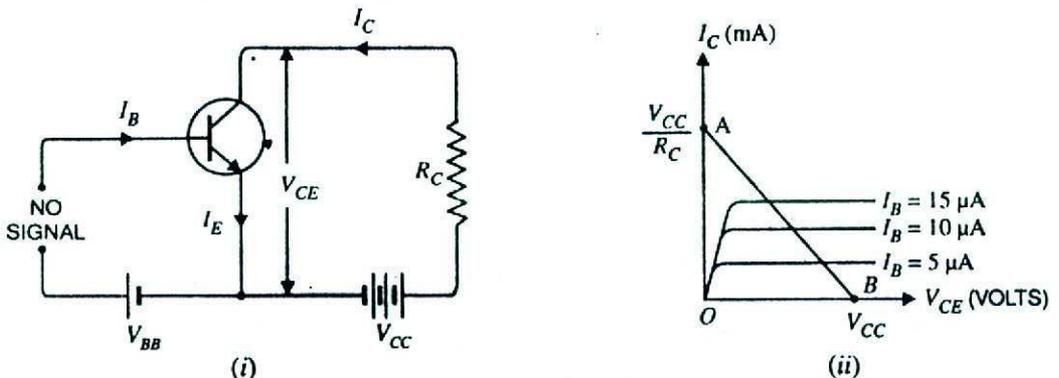

Fig. 10.28
**d.c. load line.** Consider a common emitter *npn* transistor circuit shown in Fig. 10.28 (i) where no signal is applied. Therefore, d.c. conditions prevail in the circuit. The output characteristics of this circuit are shown in Fig 10.28 (ii).
This gives the first point *B* ( $OB = V_{CC}$ ) on the collector-emitter voltage axis as shown in Fig. 10.28 (ii).
This gives the second point *A* ( $OA = V_{CC}/R_C$ ) on the collector current axis as shown in Fig. 10.28 (ii). By joining these two points, d.c. \*load line *AB* is constructed.